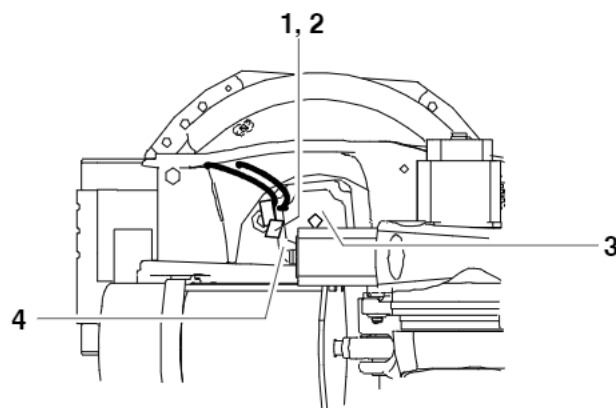

Fig. 3 Removal, installation of AC servomotor A 1
- (2) Release and unplug connectors XM1 and XP1 at the sockets (Fig. 3/1, 2).
- (3) Unscrew four M12x25-8.8 Allen screws (4).
- (4) Release and lift out AC servomotor A 1 (3).
- (1) Inspect the toothing of the AC servomotor (Fig. 3/3) and gear unit for fouling (e.g. flash rust).
- (2) Clean the toothing of the AC servomotor (Fig. 3/3) and gear unit.
- (3) Apply a thin but continuous coat of Microlube GL 261 grease to the toothing of the AC servomotor (Fig. 3/3) and gear unit before installation.
- (1) Remove all protective coatings and oil from new AC servomotor A 1, where applicable.
- (2) Clean toothing of AC servomotor (Fig. 3/3) and gear unit before installation and apply a thin but continuous coat of Microlube GL 261 grease.
- (3) Clean mounting surface for AC servomotor A 1 on gear unit.
- (4) Install AC servomotor A 1 (3).
The sockets XM1 (1) and XP1 (2) must be positioned as shown in Fig. 3. Insertion of AC servomotor A 1 can be facilitated by turning it gently about its rotational axis.
- (5) Insert four M12x25-8.8 Allen screws (4).
- (6) Tighten the four hexagonal bolts (4) with a torque wrench, increasing the tightening torque M_A in diagonally opposite sequence in several stages to the specified value ($M_A = 78 \text{ Nm}$).
- (7) Plug connectors XM1 and XP1 into the sockets (1, 2).
- (8) **For floor-mounted robots in an inclined position:** Remove safeguards against the robot turning about rotational axis 1.
- (9) Carry out zero adjustment (see Operating Handbook, KR C2, Chapter "Start-up", Section Robot "Mastering/Unmastering").